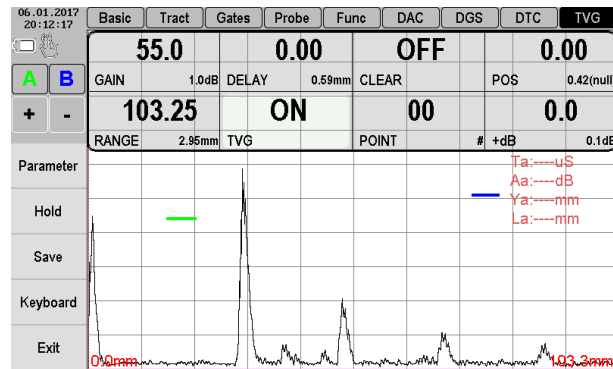

Figure 2.40 – Turning on TVG mode
4. Find the maximum signal from the nearest reflector, and set the signal top on the screen level of 50-80 % by changing the gain (Figure 2.40).